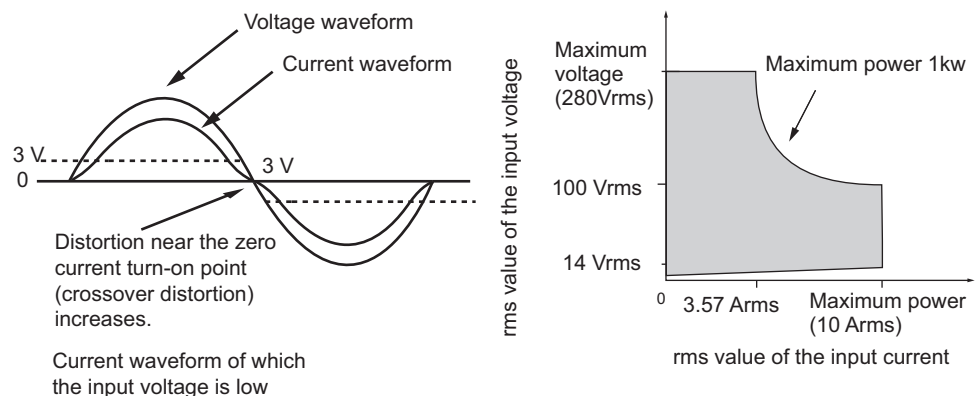
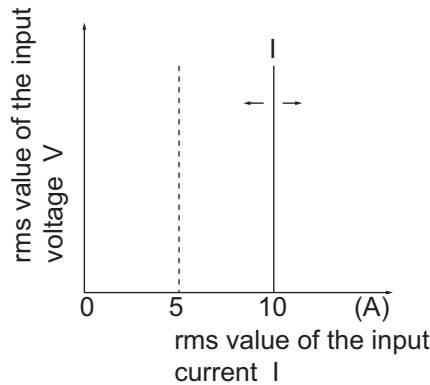
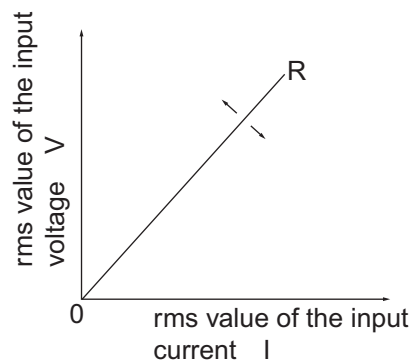
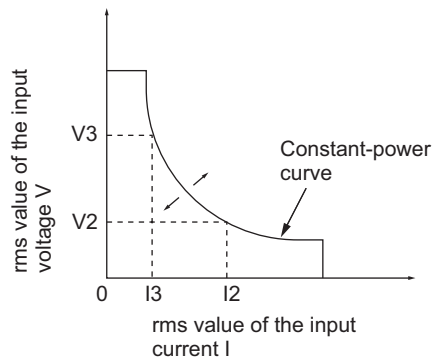

Fig.A-1 Operating Range
Fig.A-4 CC Mode
Fig.A-6 CR Mode
Fig.A-8 CP Mode
The PCZ1000A operates as a constant-current load as shown in Fig.A-4 within the operating range shown in Fig.A-1. The RMS value of the input current (I) is maintained at the specified value regardless of changes in the input voltage.
The PCZ1000A operates as a resistive load as shown in Fig.A-6, within the range shown in Fig.A-1. If the input voltage changes, the current flow changes accordingly based on the specified resistance R, such that RMS input voltage/RMS input current = resistance.
The PCZ1000A operates as a constant-power load, as shown in Fig.A-8 load within the range shown in Fig.A-1. If the RMS input voltage increases, the PCZ1000A reduces the RMS current flow accordingly to keep the apparent power ($P = V \times I$) constant. In Fig.A-8, $P = V_2 \times I_2 = V_3 \times I_3$.